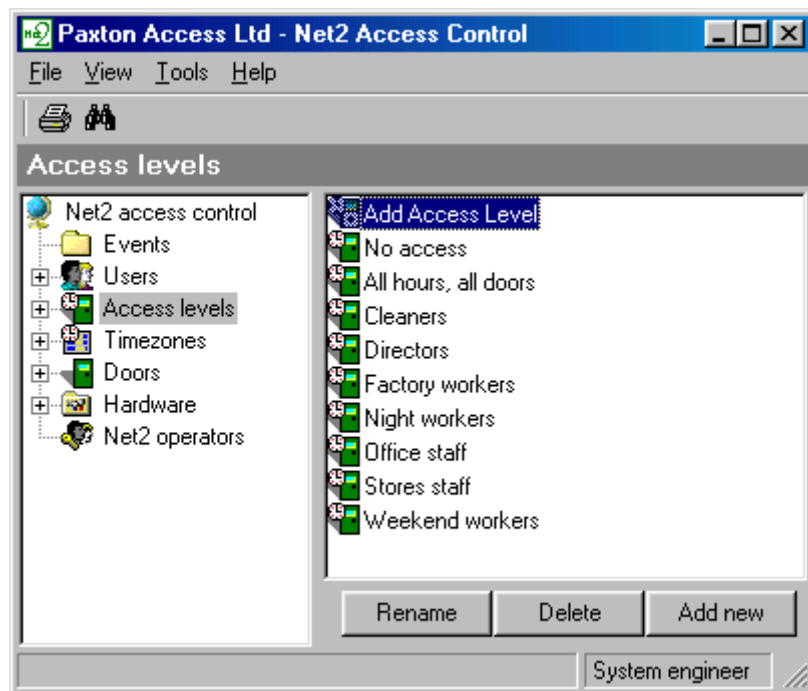

Figure 4.9
1. Double click on Add Access Level, see figure 4.9.